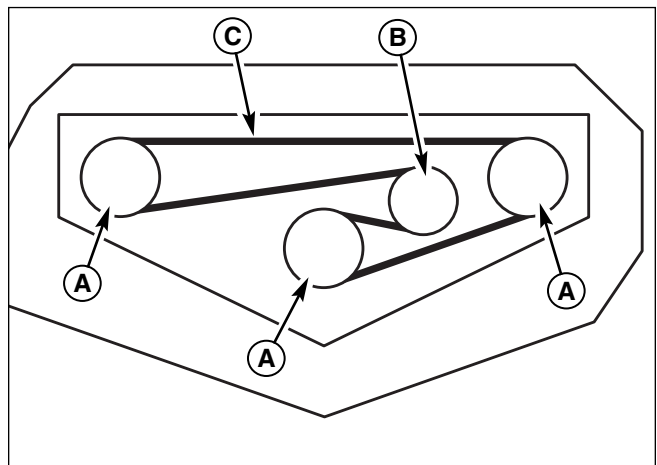

**Figure 51. PTO Belt Routing**
2. Install the belt on the center spindle pulley. Follow the illustration in Figure 51 carefully. Make sure the belt twists in the correct direction.
3. Install the belt over the PTO clutch pulley and the spring loaded idler pulley. Again, follow the illustration in Figure 51 carefully and make sure the belt twists in the correct direction.